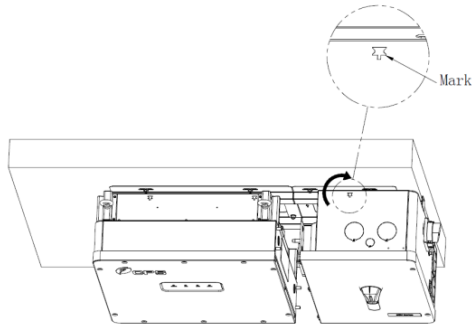

Figure 3-15 Wire-box Position
- B. Aligning the mark on the wire-box with the bracket (**Figure 3-15**), hang the wire-box on the right side of the wall bracket. Push the wire-box left to its final position meeting the main inverter enclosure.